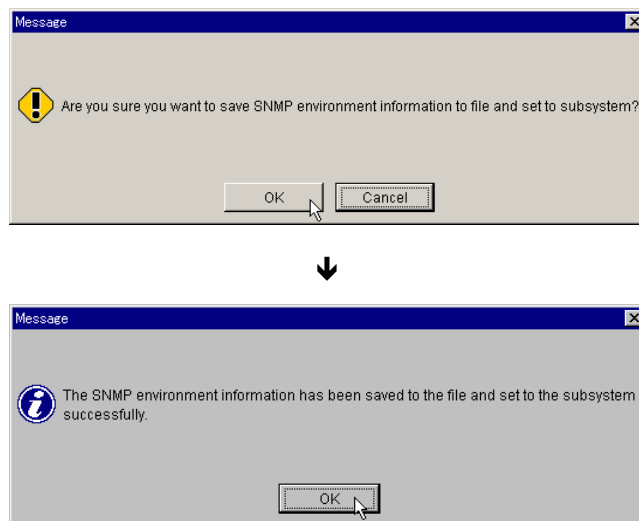

Figure 5.8 Confirmation Message
8. A message appears, confirming that the settings are complete (Figure 5.8). This message also asks you to restart the system. Click the OK button.